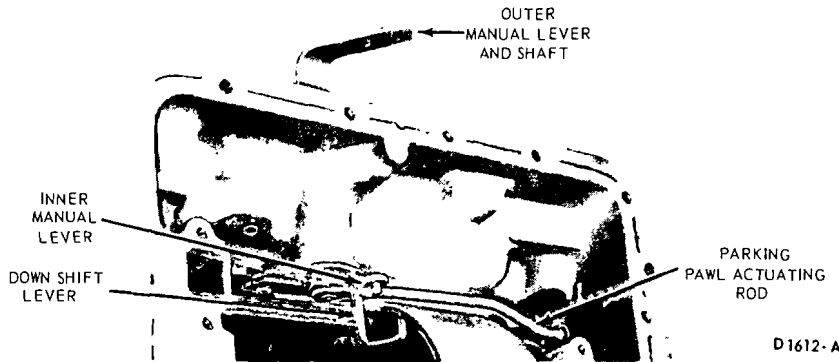

FIG. 39—Downshift and Manual Linkage
3. Slide the downshift lever out from the inside of the case (Fig. 39). Remove the seal from the recess in the manual lever shift.